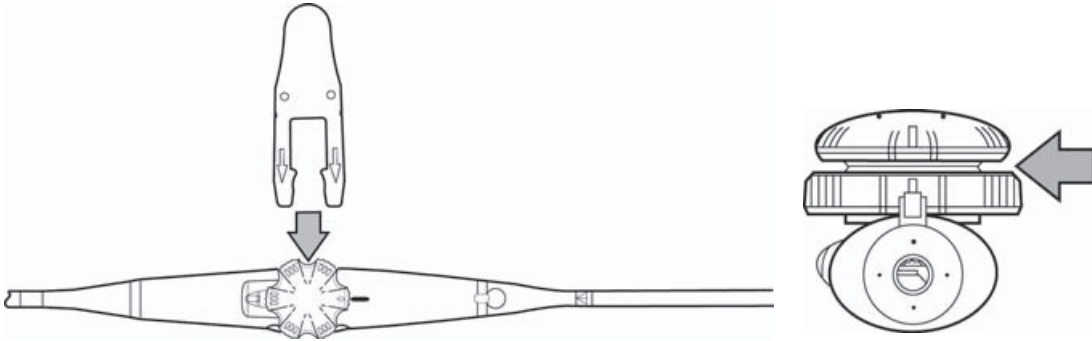

Figure 19 Insertion of the puncture test tool
- 1 Insert the puncture test tool under the scanplane controller as shown in Figure 19.